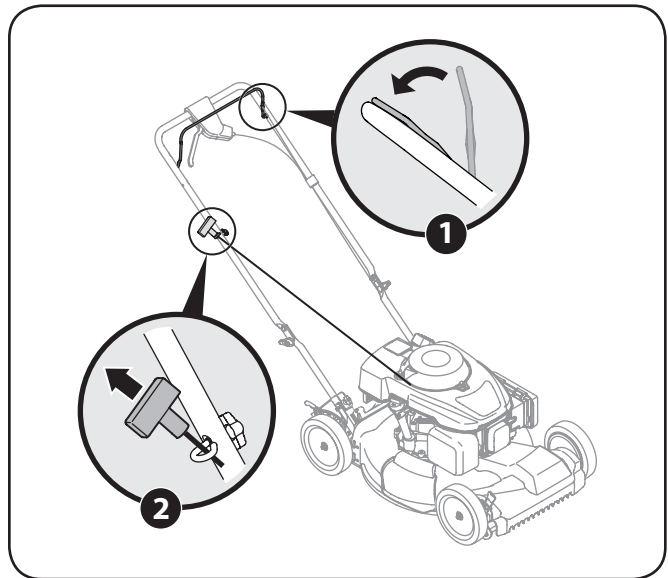

Figure 5-2
1. Standing behind the mower, squeeze the blade control against upper handle. See Figure 5-2.